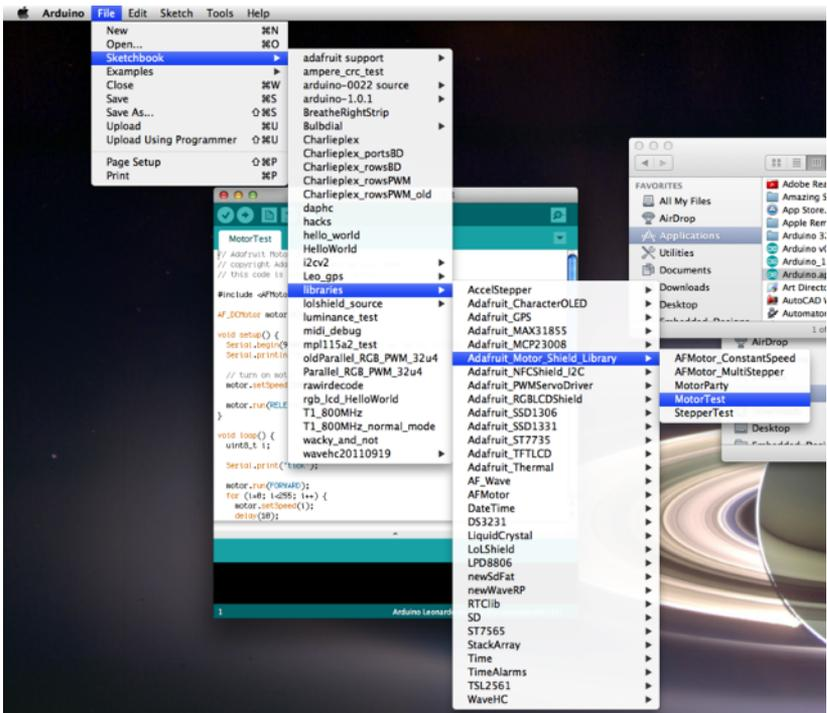

Figure 4-13. Viewing the libraries in the Arduino IDE
4. Restart the Arduino IDE and verify that the library appears in the File→Examples menu (Figure 4-13).